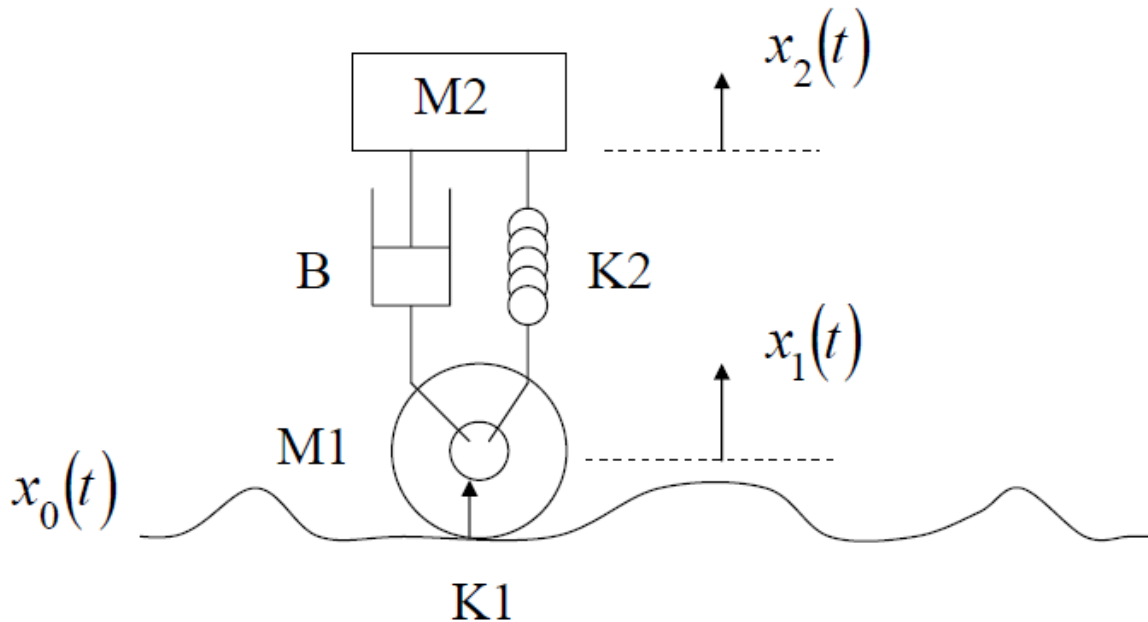

Figure 1: Wheel suspension system
Figure 1 shows the wheel suspension system for a car. The wheel follows the road given by the position  $x_0(t)$ .
- Apply Newton's laws to each of the two masses to derive the equations for the vertical motion of the wheel and the car, using the symbols in Figure 1.